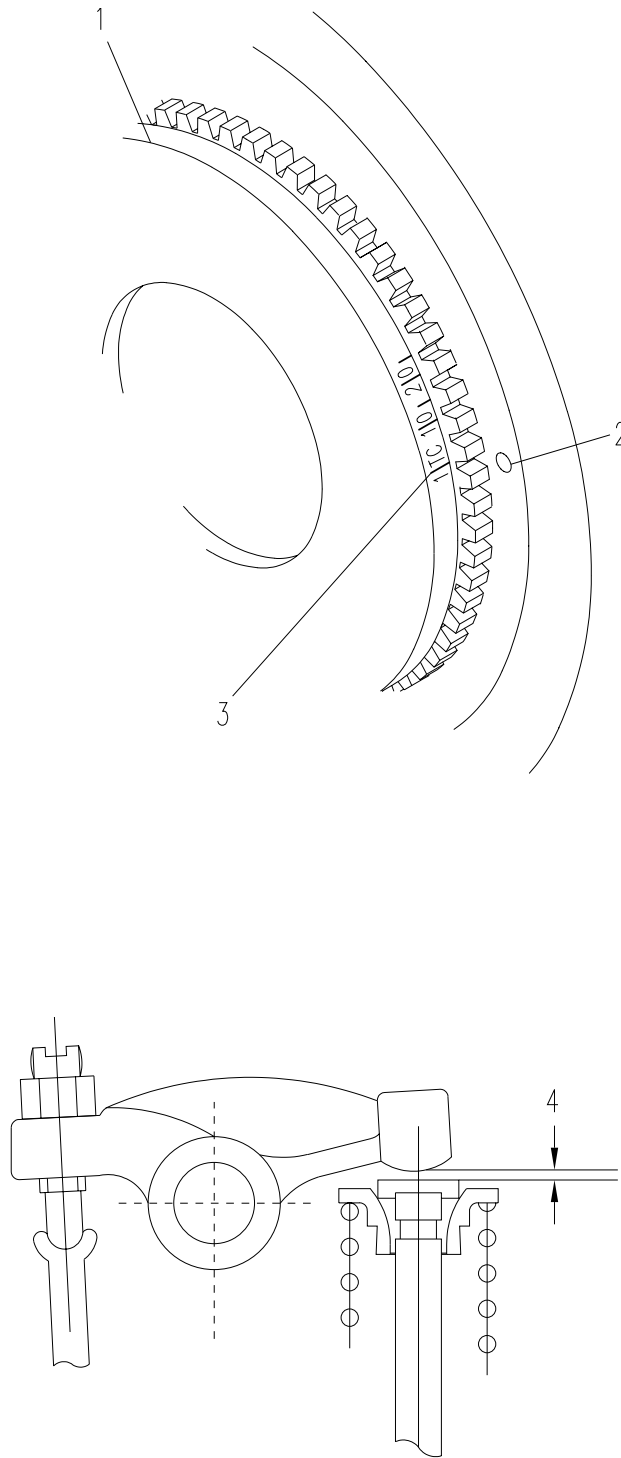

Figure 5-29. Valve Clearance
- (1) Turn flywheel (1, Figure 5-29) until "1TC" (3) mark on flywheel (1) aligns with timing hole (2) in bell housing.
- (2) Rotate flywheel cw and ccw about 15° and observe intake and exhaust valves on piston no. 1. If intake and exhaust valves on piston no. 1 do not move while rotating flywheel, piston no. 1 is in compression position. Proceed to step b. If intake and exhaust valves move while rotating flywheel, piston is in overlap position. Proceed to step a(3).
- (3) Rotate flywheel 360°. Realign "1TC" mark on flywheel with timing hole on bell housing and repeat step a(2). Piston no. 1 should be in compression position.
- b. Refer to Figure 5-29 and use a feeler gauge to measure valve clearance (4) of intake and exhaust valves on piston no. 1, exhaust valve on piston no. 2, and intake valve on piston no. 3. Valve clearance (4) should measure between 0.0059 and 0.0073 in. (0.145 and 0.185 mm).
- c. If valve clearance (4) is out of tolerance, loosen lock on adjusting screw, and turn adjusting screw to adjust clearance.
- e. Refer to Figure 5-29 and use a feeler gauge to measure valve clearance of intake valve on piston no. 2 and exhaust valve on piston no. 3. Valve clearance should measure between 0.0059 and 0.0073 in. (0.145 and 0.185 mm).
- f. If valve clearance (4) is out of tolerance, loosen lock nut on adjusting screw and turn adjusting screw to adjust clearance.